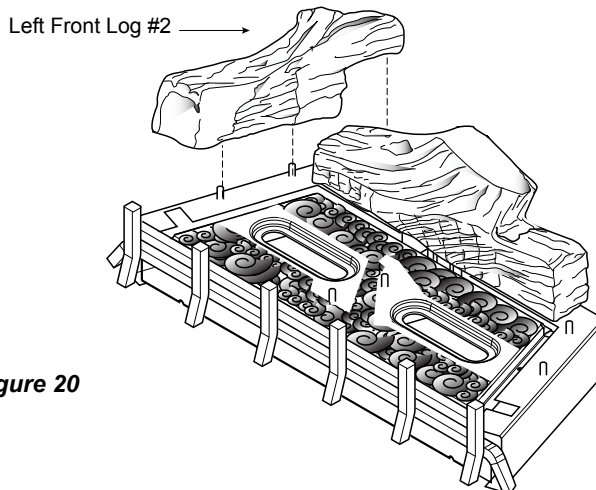

**Figure 20**
5. Align holes in the bottom of the left base log #2 with two (2) pins on the left side of insert. Install left base log. *Figure 20*